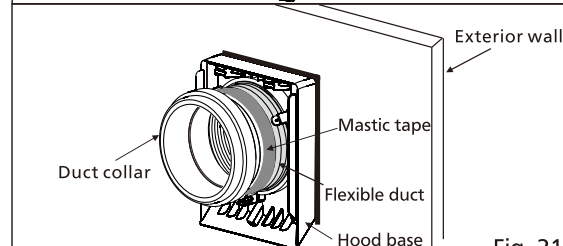

Fig. 21
7. Join the flexible duct and duct collar with mastic tape. (Fig.21)